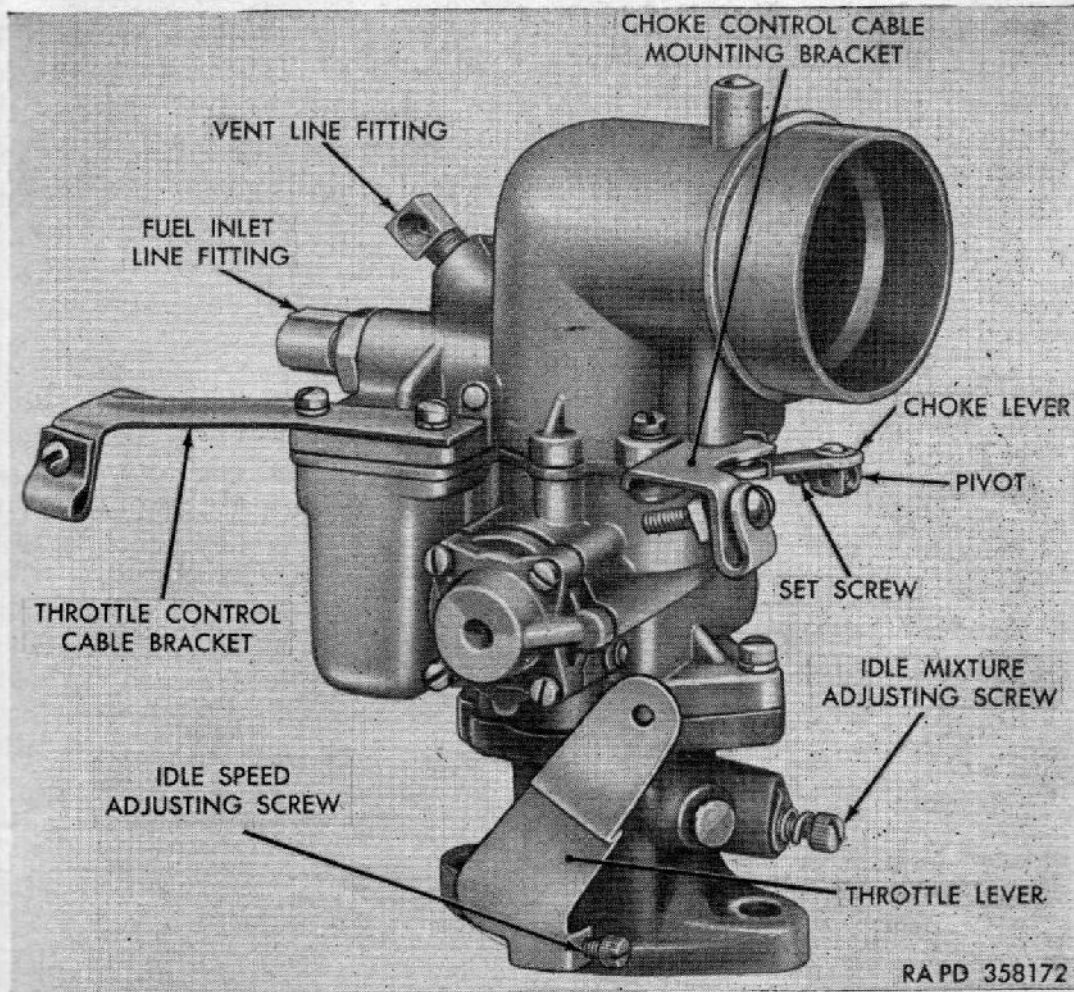
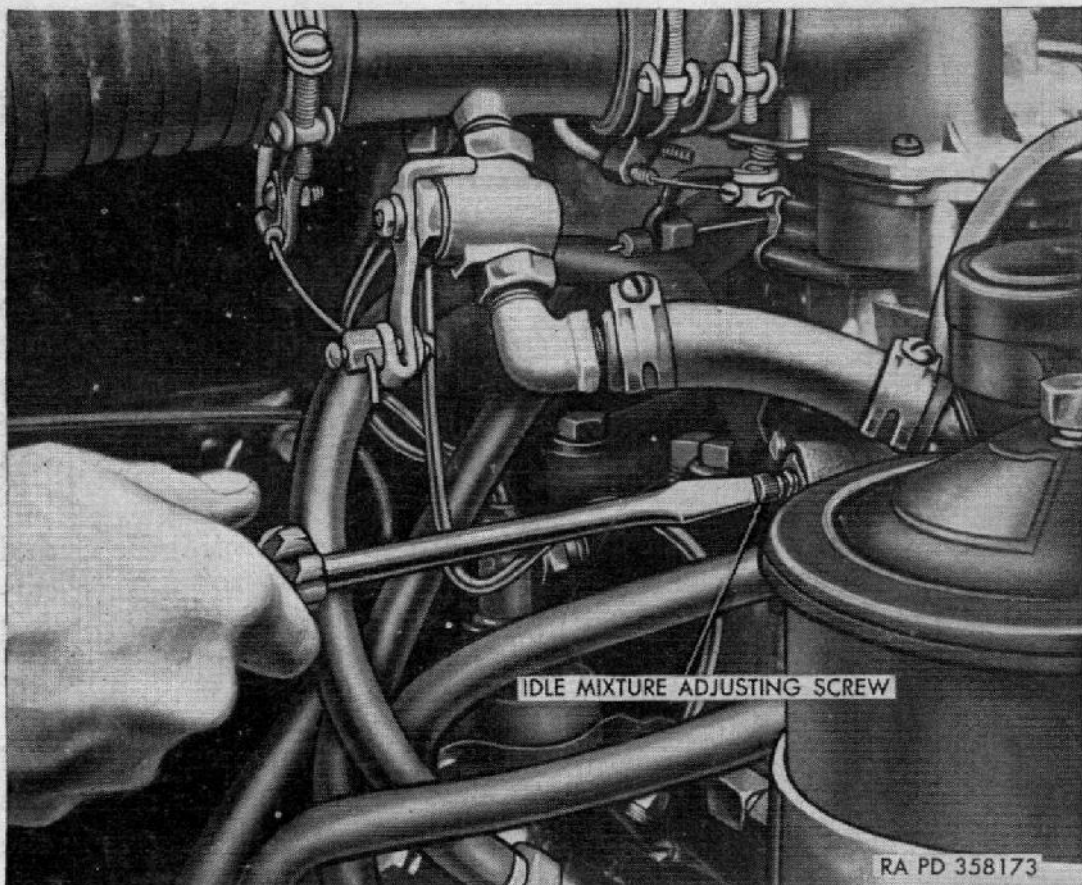

Figure 46. Carburetor.
Figure 47. Adjusting carburetor idle mixture.
- (2) *Carburetor.* The carburetor (fig. 46) is a special waterproof, single venturi, downdraft type which is sealed at the control and adjustment connections through the housing. All of the metering jets and passages are located to provide for correct metering of fuel and air at all practical operating ranges. The carburetor is vented through the float chamber to provide for underwater operation. The carburetor is mounted on the cylinder head directly over the center of the sealed-in intake manifold. The carburetor is manually controlled by the driver through the accelerator pedal, choke and throttle controls, with connecting control cables and rods.
*a. Adjustments.* Adjustment of the carburetor is accomplished by means of the idle mixture adjusting screw (fig. 46) and the idle speed adjusting screw. Make all carburetor adjustments with the engine running at normal operating temperatures (160° to 180° F.). Turning the idle mixture adjusting screw to the right, or in, makes the fuel mixture leaner; turning it to the left, or out, increases the mixture or makes it richer. To adjust the idle mixture, turn the idle mixture adjusting screw (fig. 47) in until it just touches the needle seat or the engine begins to lag; then turn out one half to one full turn. Care should be exercised not to jam the idle mixture adjusting needle against the seat tight enough to damage the threads or groove the point. If this occurs, the idle mixture adjusting screw will have to be replaced before satisfactory adjustment can be made. The idle speed adjusting screw on the throttle lever (fig. 46) should be set to idle the engine at approximately 600 rpm.
- (1) Disconnect the choke control cable, throttle control cable, and ventilator control cable and remove intake valve cover (par. 91a(2), (3), and (5)).
- (2) Disconnect vent line from vent line fitting (fig. 46) on top of carburetor. Disconnect fuel inlet line (fig. 48) from fitting on carburetor. Remove cotter pin and unlock throttle control rod (fig. 25) from throttle lever.